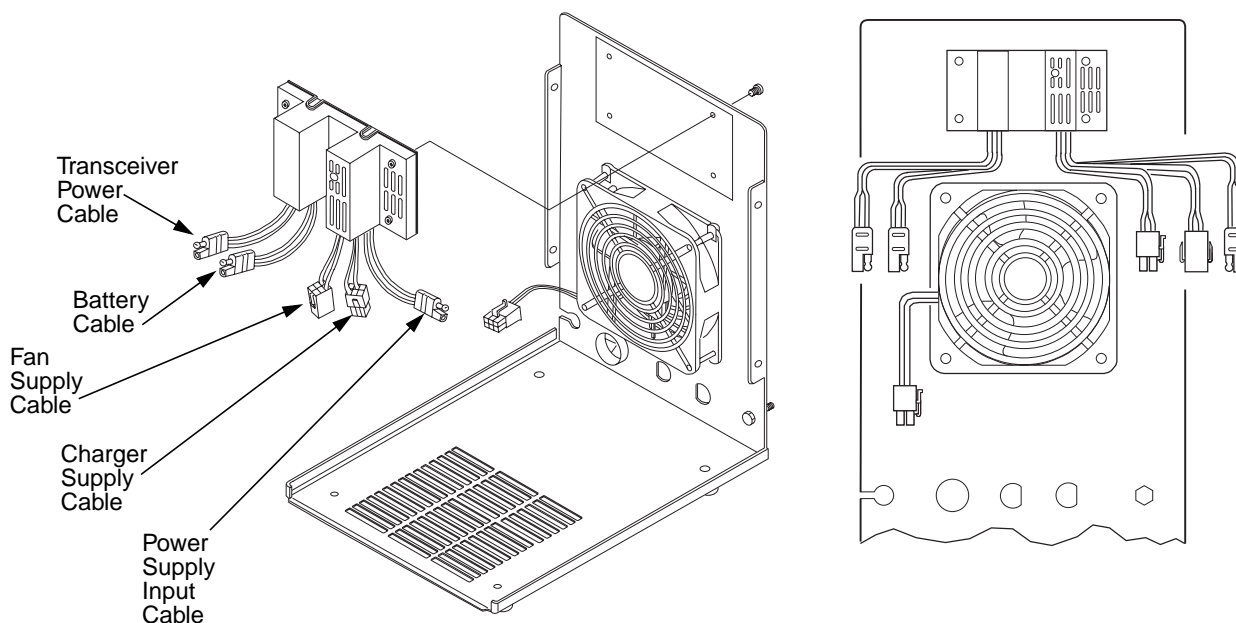

Figure 3-8. Battery Revert
The HLN9455 Battery Revert Module has three (3) cables with 2-prong “Ford” connectors. One of the prongs of each connector is covered with insulation and the other is bare. Please note that the two (2) longest cables have opposite “polarities”. Refer to Figure 3-8.